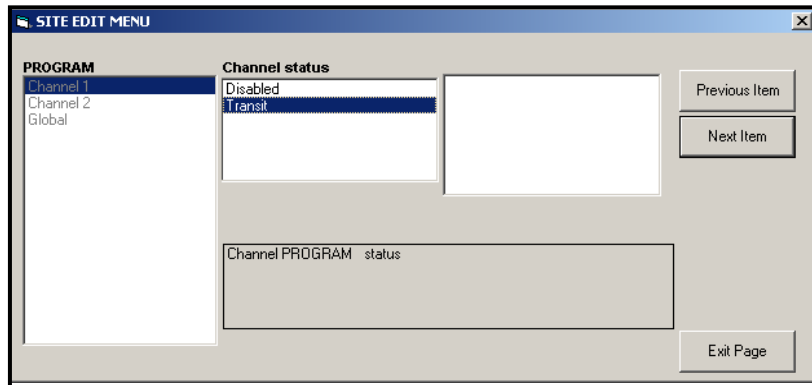

Figure 45: The Status Option in the Channel Menu
2. Highlight and double-click on the Status option in the center pane. The window now appears similar to Figure 45.